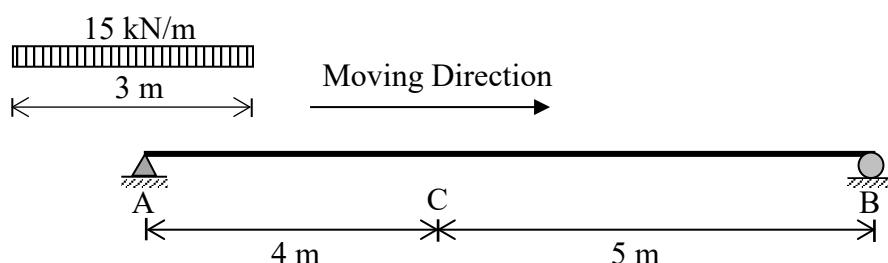

Figure A2(a) / Rajah A2(a)
- CLO3 (a) A simply supported beam with a uniformly distribution load is shown in Figure A2(a) and moving from A to B. By using Influence Line Diagram Method: